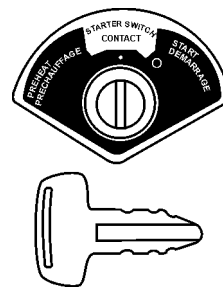

Figure 8. Ignition Switch and Key
5. Insert the **ignition key** into the ignition switch (Figure 8).